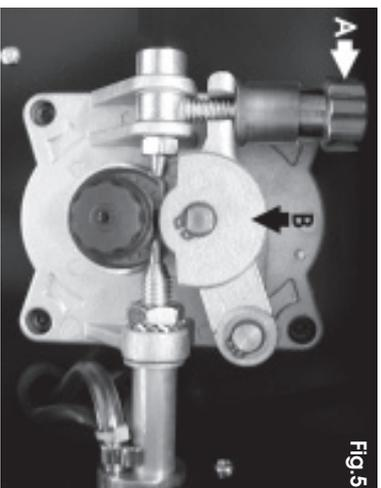
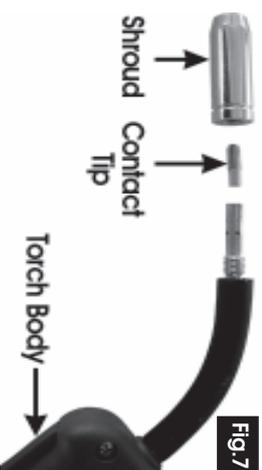

Fig.5
Fig.7
- Pull off the plastic cover from the bottom half of the Feed Roller assembly then unscrew the tensioner (A, Fig 5), whilst holding down the pressure roller bracket (B), against spring pressure, so that the tensioner hinges out of its slot.
- Reposition the pressure roller bracket and tensioner (A, Fig.5) and tighten slightly so that the wire is held within the wire feed assembly.
**Tightening the knob (A) too tightly will crush the wire and damage the wire feed motor, too loose will not allow the wire to be pulled by the roller.**
- (Ref. Fig 7)**